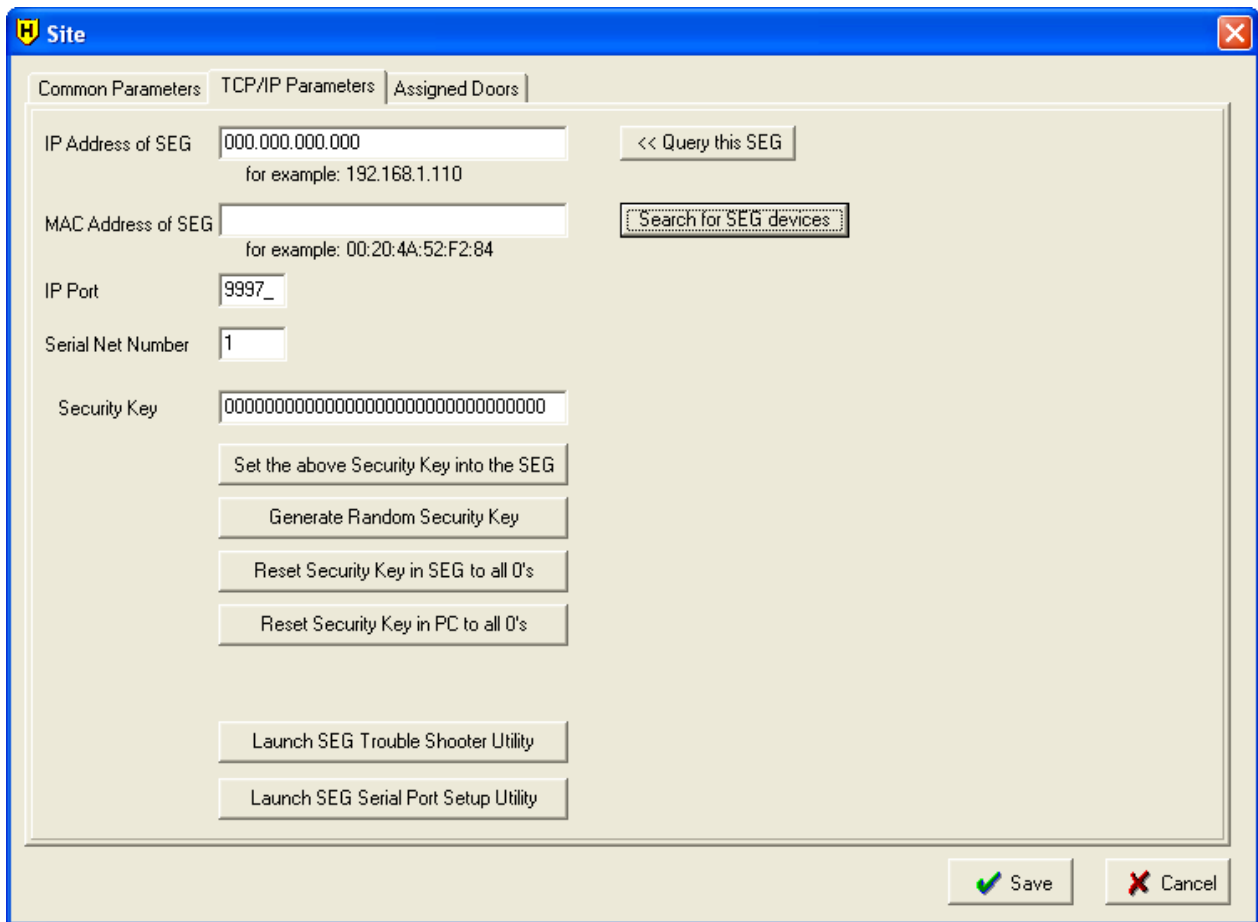

Figure 1: No SEG parameters defined
1. Press the button on the SEG setup screen (Fig. 1) labeled Search for SEG Devices to start the process.